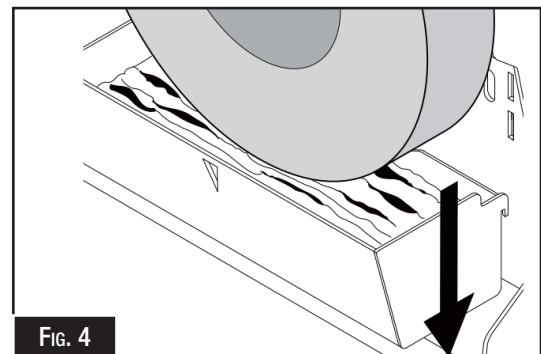

FIG. 4
- The grinding stone must run in water at all times during operation and will become soaked with water. (Fig. 4)